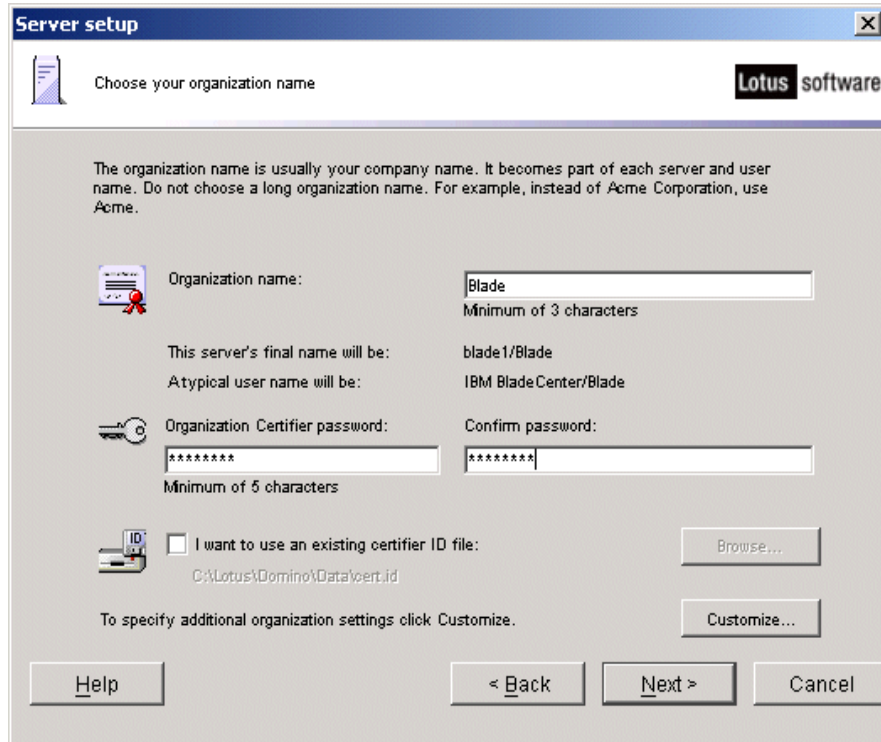

Figure 4-5 Organizational window
8. After selecting the first option, click **Next**. You will be prompted about the naming functions on the server (see Figure 4-5 on page 41).